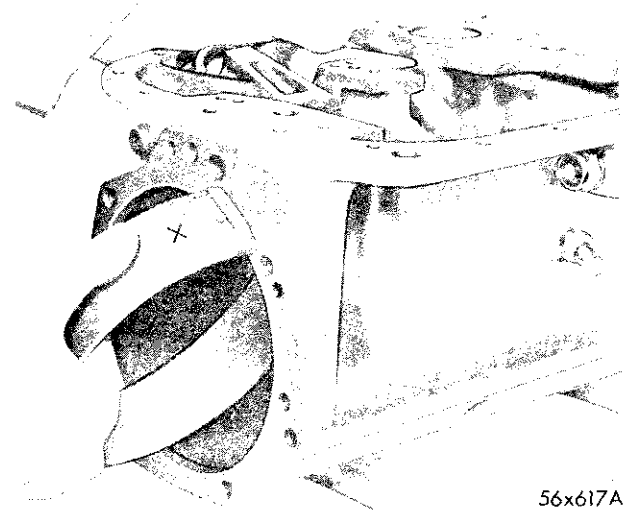

Fig. 44—Removal and Installation of Low-Reverse Band
(2) Remove the low-reverse band assembly by rotating band ends through rear opening in transmission case, as shown in Figure 44, and remove low-reverse band anchor from adjusting screw.